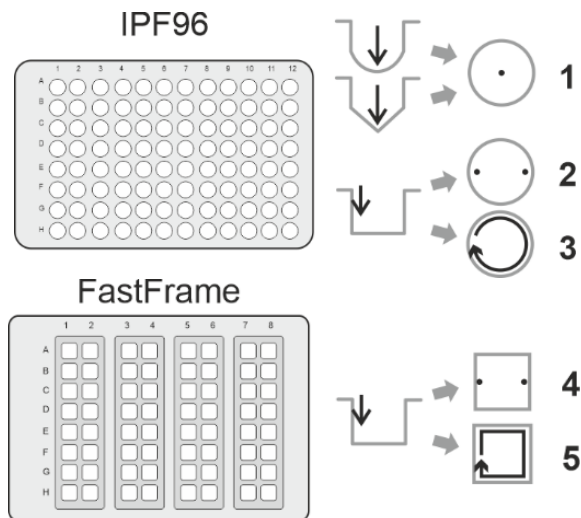

Figure 1. Aspiration methods
5.5 **Program selection.** All programs are divided into 5 categories with 10 programs each. Each category corresponds to a different type of microplate and therefore, to a different aspiration method (see figure 1):
- Category **IPF96 U/V** (1) is intended for U-shape and V shape well immunoplates.
- Categories **IPF96 FLAT-2** (2) and **IPF96 FLAT-C** (3) are intended for flat-bottom well immunoplates.
- Categories **FastFRAME-2** (4) and **FastFRAME-C** (5) are intended for Watman Schleicher & Shuell FastFRAME plates with rectangular wells.